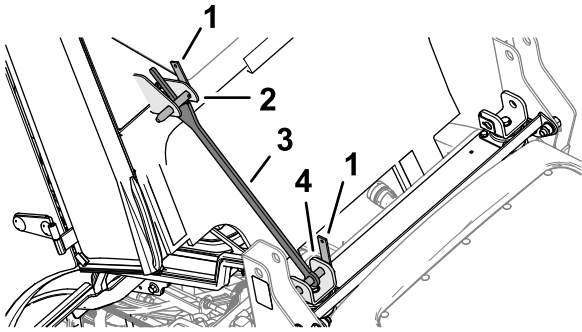

Figure 23
- Rotate the cab support bracket toward the cab so that it aligns between the cab-frame flanges, and rests against the back of the cab frame (Figure 23).
- Insert the other latch pin through the holes in the cab-frame flange, and secure the latch pin to the flanges with the hairpin (Figure 23).